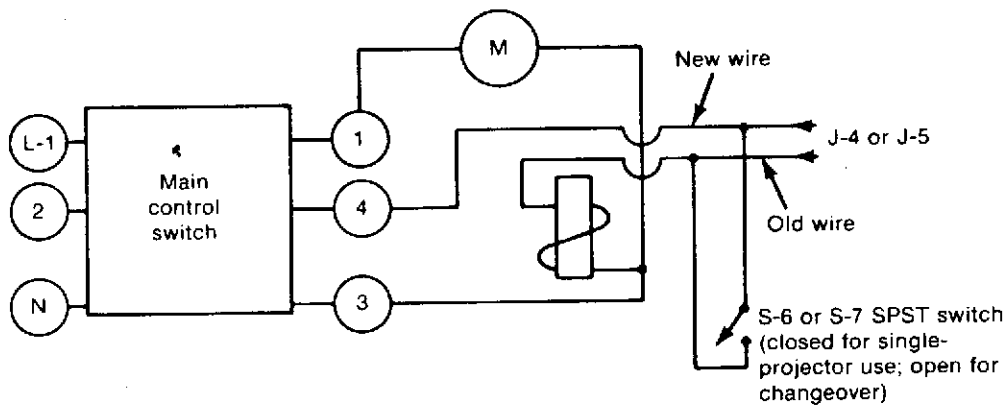

FIGURE 2 Modified wiring of the internal dowser
3. Connect the other end of the new wire and the end of the old wire (step 1) to the new receptacle J-4 or J-5 (Figure 2). This receptacle will hold the P-4 or P-5 plug from the changeover. This switch is used to restore the projector to its original wiring when it is used without the changeover.
4. Wire the S-6 or S-7 switch as shown in Figure 2. (A shorting plug in J-4 or J-5 can substitute for this switch.)